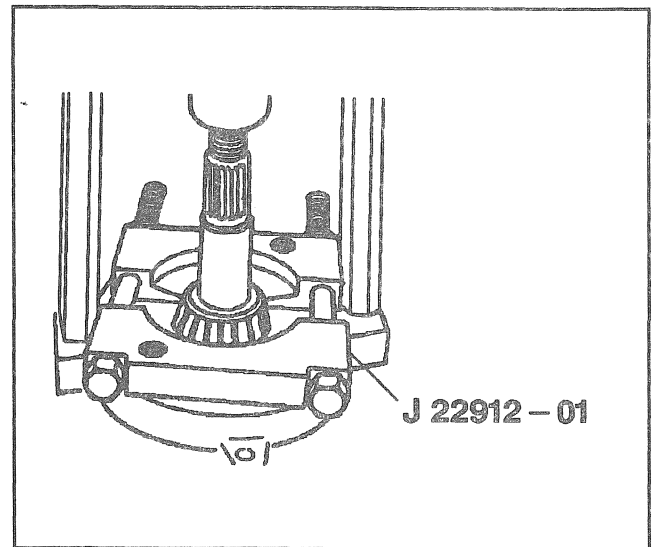

Figure 9—Removing the Pinion Rear Bearing
23. Inner bearing (13) and shim (14) from the pinion.
- A. Press the bearing off the pinion using J 22912-01 (Figure 9).